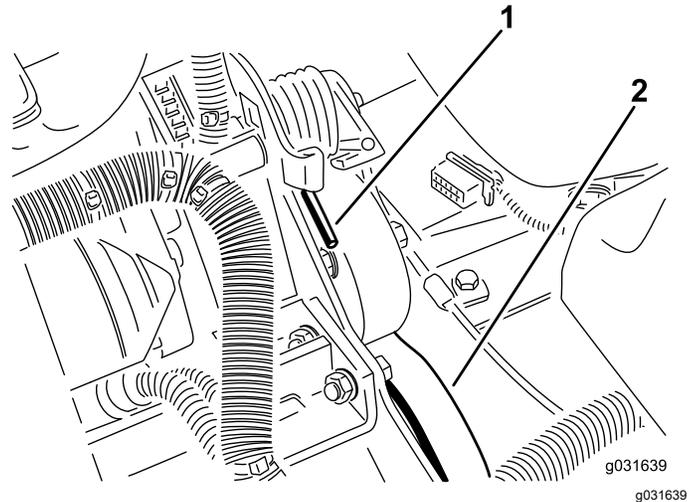

Figure 57
2. Push down and forward on the spring end to unhook it from the bracket and release tension on the spring (Figure 57).